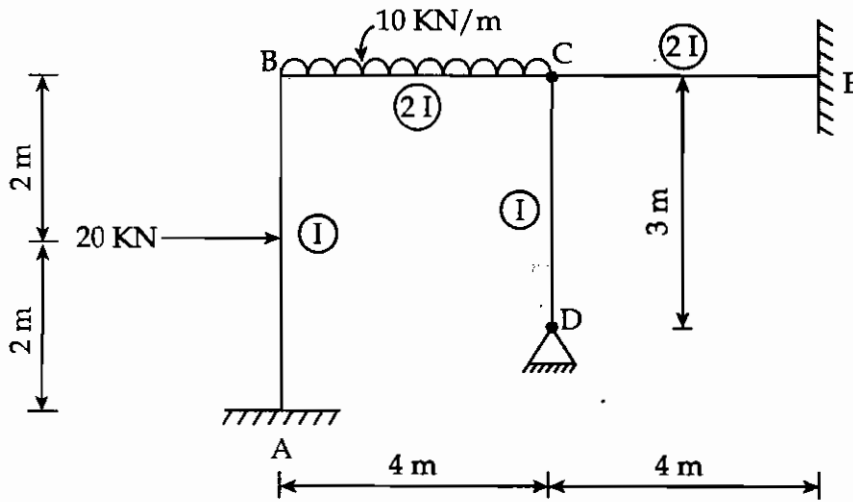

Figure 7
- (c) Analyse the loaded frame shown in Figure 7, by moment distribution method and draw the bending moment diagram.